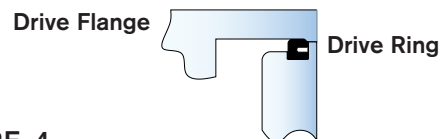

FIGURE 4
NOTE: The back of the Rotary Seal must be installed facing the Drive Flange Assembly end of Torque Limiter (See Figure 4).
5. Install the Rotary Seal (Item 15) (See Figures 4 and 5).